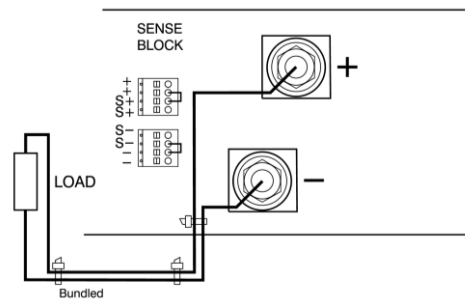

Figure 7.4: Local sensing with the power cables bundled close together to minimize inductance.
- For local sensing, check whether there is a link between + and S+ and between – and S– on the sense header (default), see Figure 7.4.